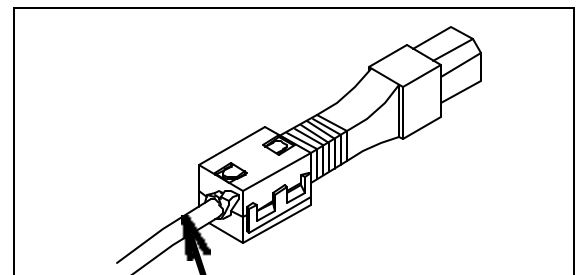

Figure 2
2. Assemble the supplied Tie Wrap (included in accessory kit) around the AC Power Cord, and against the Ferrite Core. This prevents the Ferrite Core from moving away from the female end of cord. (figure 2)